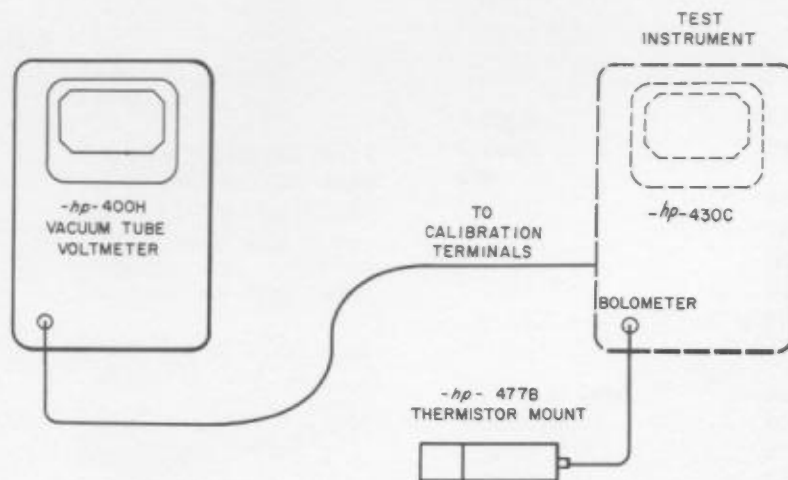

Figure 9-2. 430C Power Meter Calibration
- 2) Connect the equipment as shown in Figure 9-2.